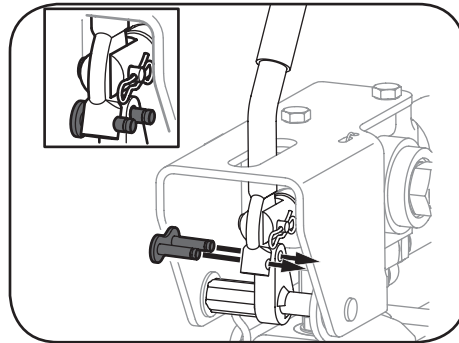

Figure 3-3
4. Install the handle link. See Figure 3-3.